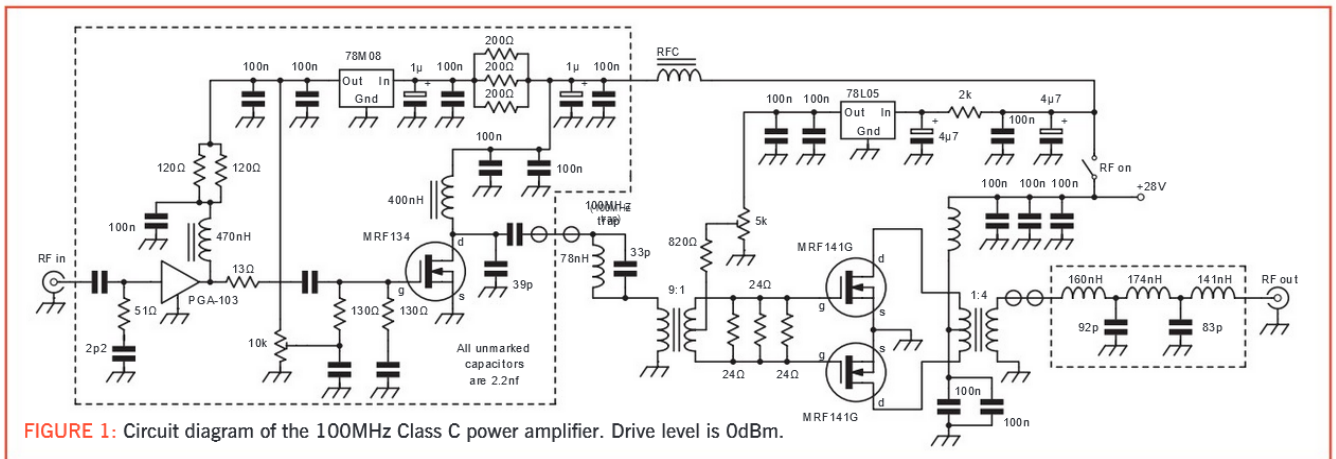

FIGURE 1: Circuit diagram of the 100MHz Class C power amplifier. Drive level is 0dBm.
**Figure 1** shows the complete circuit diagram of the final version of the power amplifier, which can be seen in **Photo 2**. The completed assembly showing the fan and surplus heatsink is in **Photo 3**. The output spectrum of